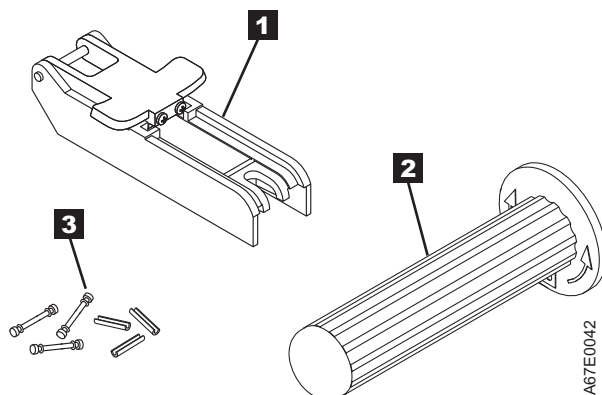

Figure 4-11. Leader Pin Reattachment Kit
- **Leader pin attach tool** (see **1** in Figure 4-11 on page 4-14). A plastic brace that holds the cartridge door open.
- **Cartridge manual rewind tool** (see **2** in Figure 4-11 on page 4-14). A device that fits into the cartridge's hub and lets you wind the tape into and out of the cartridge.
- **Pin supplies** (see **3** in Figure 4-11 on page 4-14). Leader pins and C-clips.